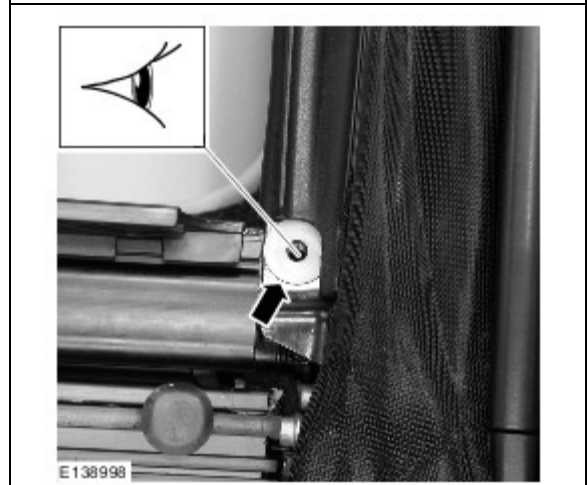

Figure 8
10. Install the upper washer. (Figure 8)